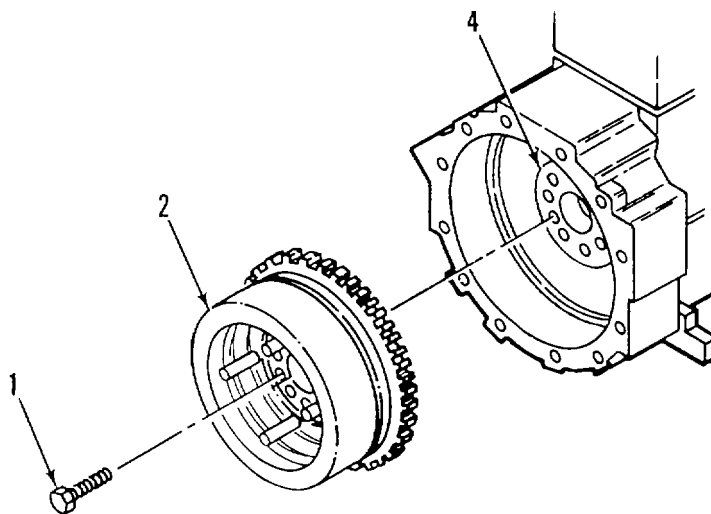

Figure 3-24. Flywheel
a. REMOVE. (Figure 3-24)
- (1) Remove flywheel bolts (1) and flywheel (2).
- (2) Inspect flywheel (2) and ring gear (3) for cracks and damage.